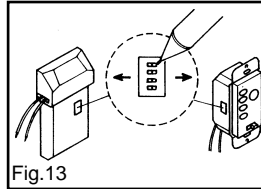

Fig.13
**Note:**(Fig. 13)This remote control unit is equipped with 16 code combinations to prevent possible interference from or to other remote units. The frequency switches on your receiver and wall transmitter have been pre-set from the factory. Please recheck to make sure the switches from both units are set to the same positions. Any combination of settings will operate the fan as long as the wall transmitter and receiver are set to the same switch settings.